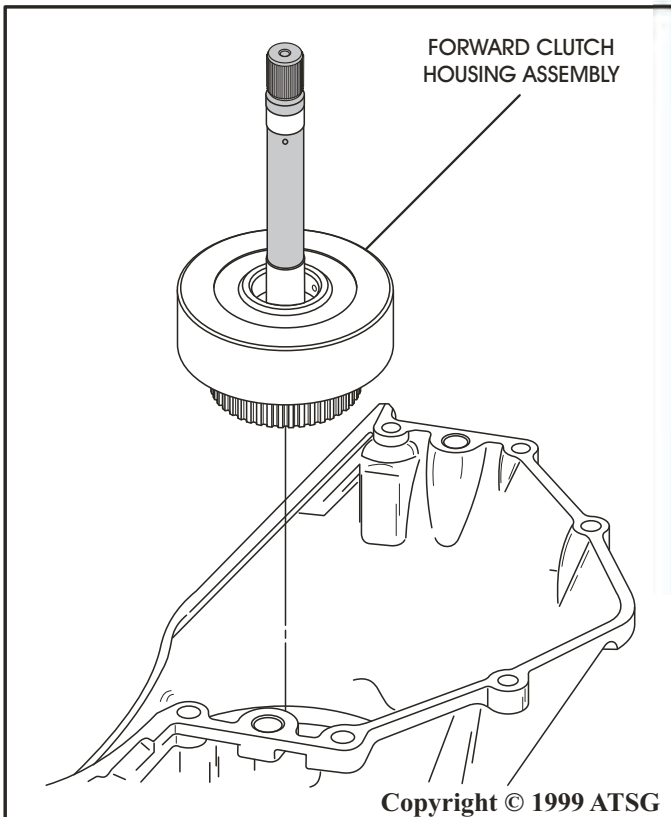

Figure 111
16. Install the completed forward clutch housing assembly into the case by rotating back and forth until fully seated (See Figure 111).